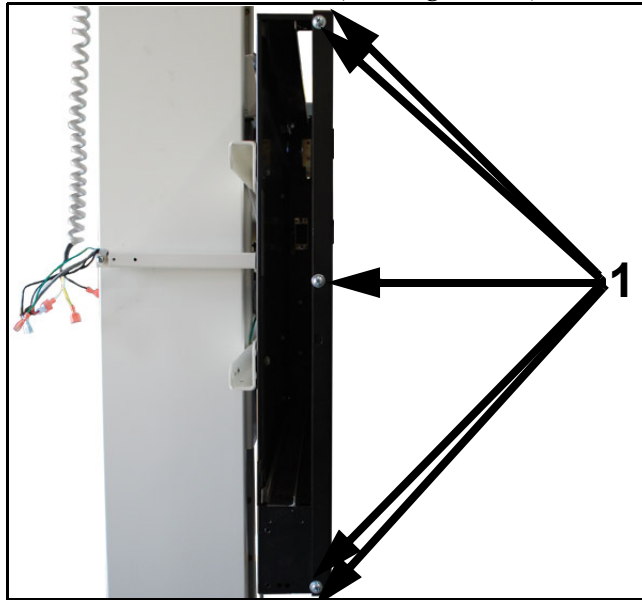

Figure 6-9. Top Cover Screws
- 1 Unfasten the 3 screws (1 in Figure 6-9) that hold the chin rest (2) in place.
- 2** Remove the five screws (1 in Figure 6-9) on the left face plate holder.